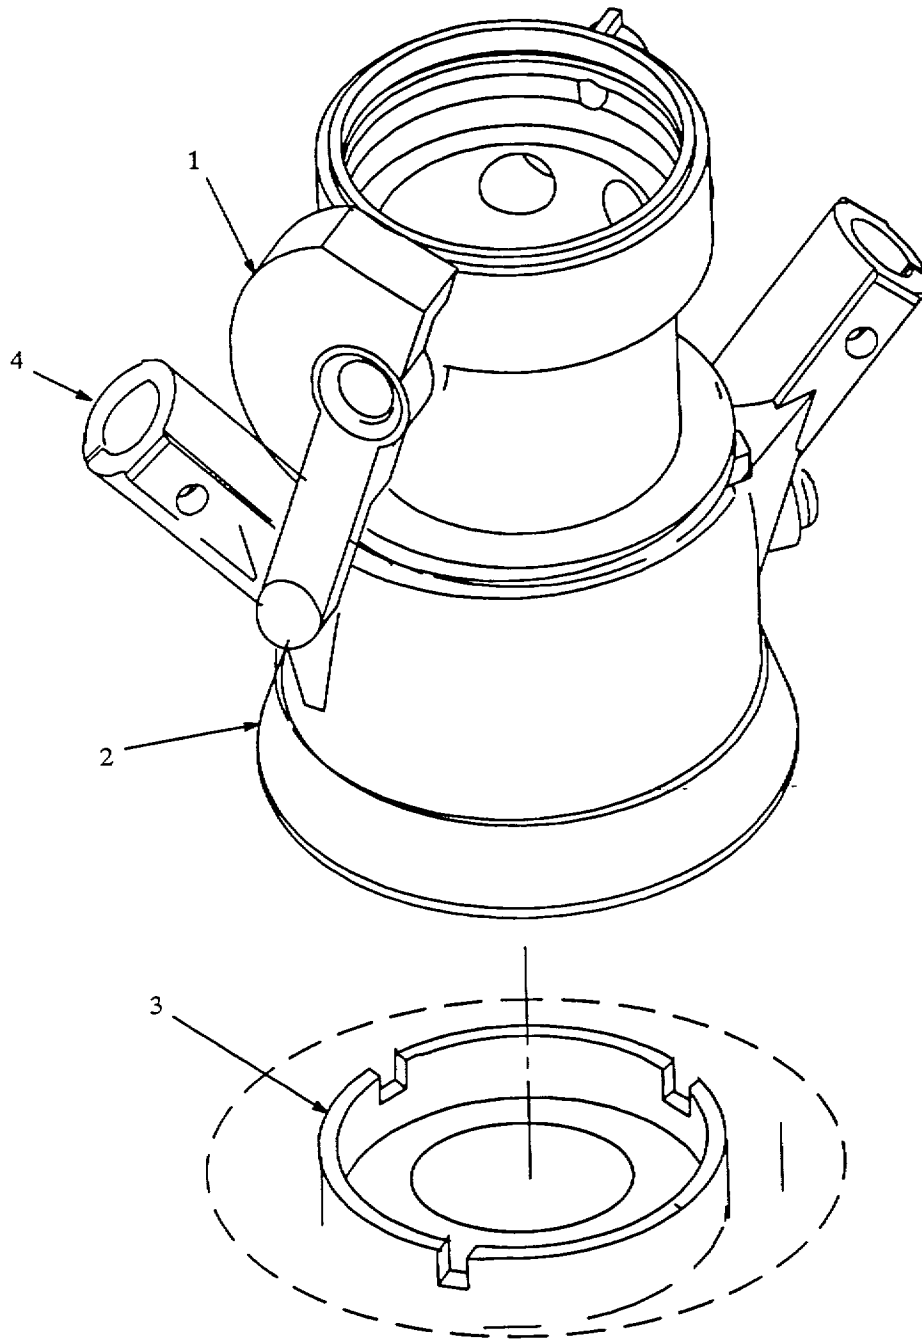

Figure 5-8. Recirculation Nozzle Functional Test.
- (1) Functional Test. Refer to figure 5-8.